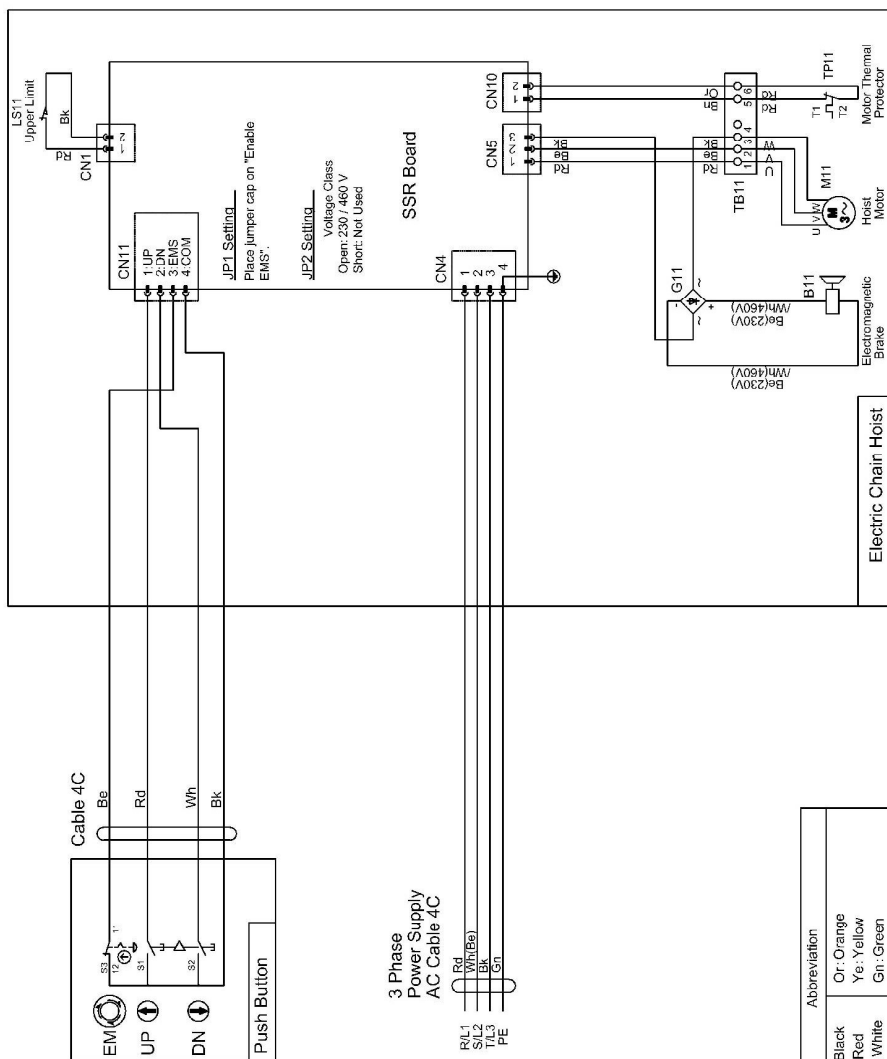
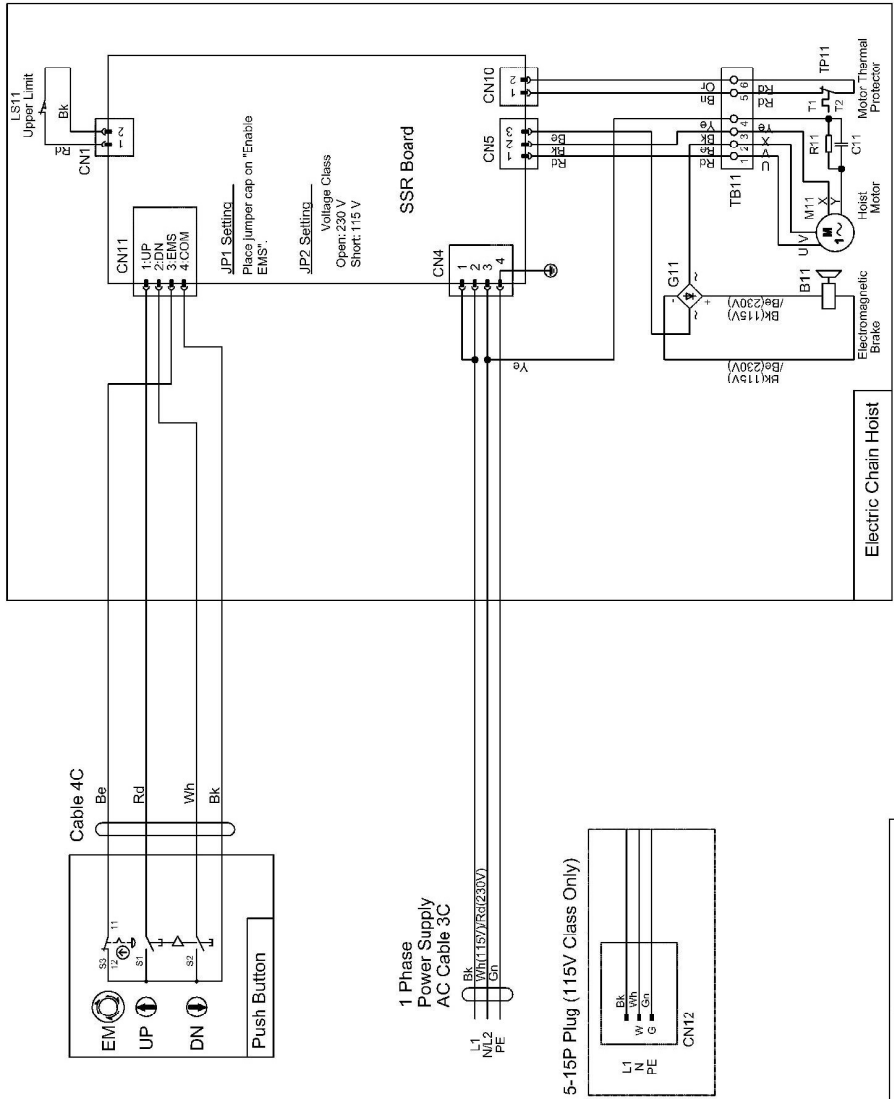

Figure 3-8 3-Phase EM Wiring Diagram
Figure 3-9 Single-Phase SEM Wiring Diagram
- 3.5.8 The Wiring Diagram is accessible from the QR code label located as shown in **Figure 3-7**. Wiring Diagram for EM (**Figure 3-8**) or SEM (**Figure 3-9**) will be displayed.